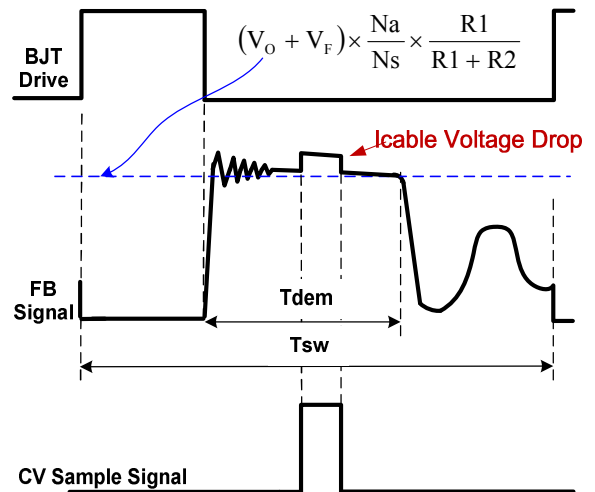

Fig.2
transformer energy to the secondary. Fig.2 illustrates the CV sampling signal timing waveform in DP25132. As shown in Fig.2, it is clear that there is a down slope representing a decreasing total rectifier V_f and its voltage drop as the secondary current decreases to zero. To achieve an accurate representation of the secondary output voltage on the auxiliary winding, the CV sampling signal blocks the leakage inductance reset and ringing. When the CV sampling process is over, the internal sample/hold (S&H) circuit captures the error signal and amplifies it through the internal Error Amplifier (EA). The output of EA is sent to the Primary Side Constant Voltage Modulator (PSR-CVM) for CV control. The internal reference voltage for EA is trimmed to 2V with high accuracy.
During the CV sampling process, an internal variable current source is flowing to FB pin for Cable Drop Compensation (CDC). Thus, there is a step at FB pin in the transformer demagnetization process, as shown in Fig.2. Fig.2 also illustrates the equation for “demagnetization plateau”, where V_o and V_f is the output voltage and diode forward voltage; R_1 and R_2 is the resistor divider connected from the auxiliary winding to FB Pin, N_s and N_a are secondary winding and auxiliary winding respectively.